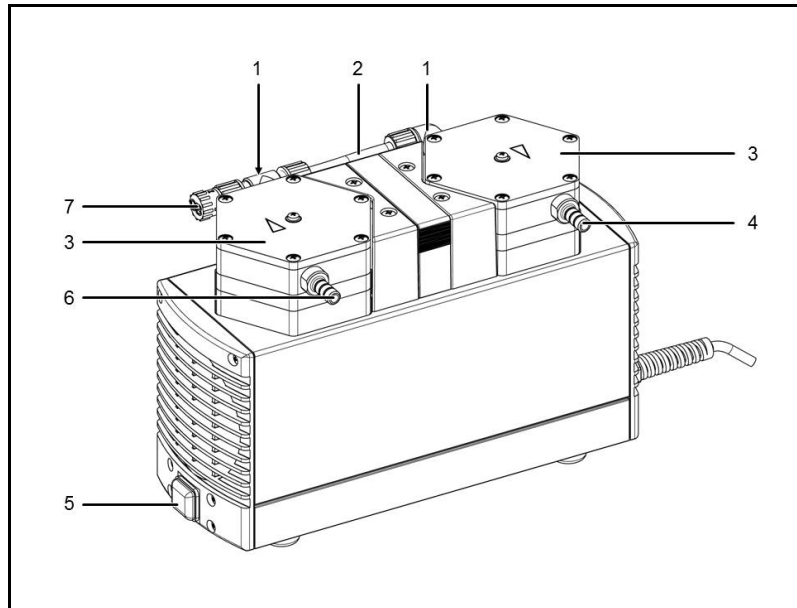

Fig. 2: Diaphragm pump (shown: pump N 840.3 FT.18G)
1. Disconnect the tubes in the inlet (Fig. 2/6) and the outlet (4) of the pump.
2. Open the connection (2) of the pump heads.
3. Screw out the connecting piece (1) of the vacuum side head.
5. Remount the connection (2) between the both pump heads.
- Switch on pump with mains switch (see Fig. 2/5)
- Switch off pump with mains switch (see Fig. 2/5).